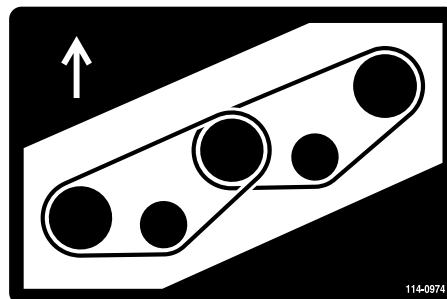
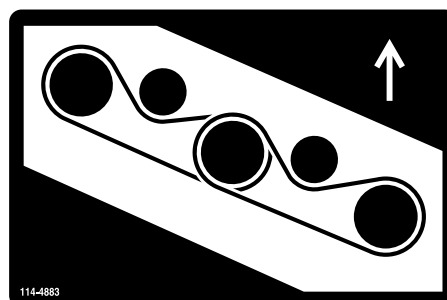

Figure 85
Figure 86
7. Route the new belt around the spindle pulleys and idler-pulley assembly (Figure 85 and Figure 86).